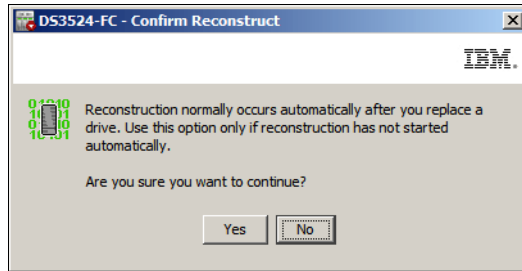

Figure 14-146 Confirm Reconstruct
3. The window shown in Figure 14-146 on page 429 will be displayed. Read the information and then click the **Yes** button to start reconstruction of the drive.